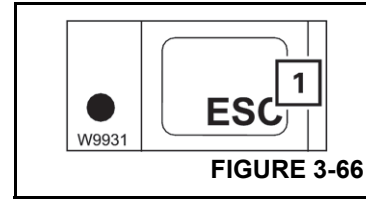

FIGURE 3-66
Press the **Esc** button (1) (Figure 3-66) once. The same menu opens that was open before the Error submenu opened.